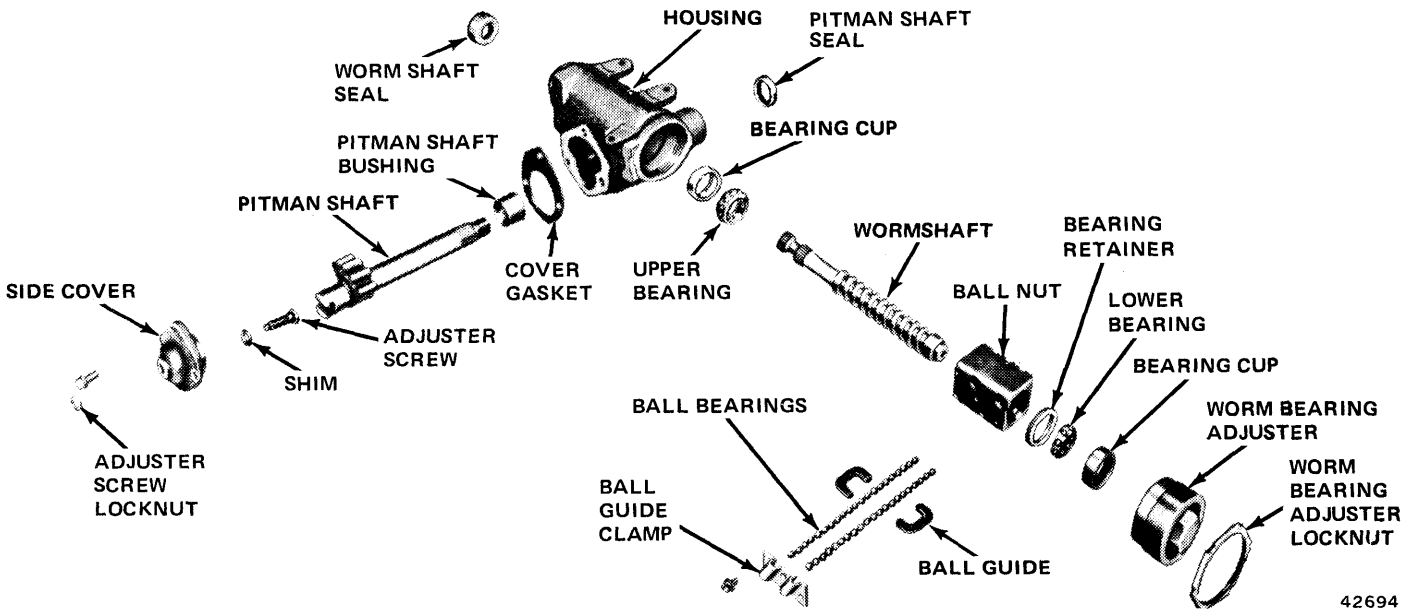

Fig. 11-47 Steering Gear—Left-Hand Drive Vehicles
- (2) Remove pitman shaft adjuster screw locknut (fig. 11-47).
- (3) Remove side cover attaching bolts and lockwashers.
- (4) Turn pitman shaft adjuster screw clockwise to force side cover from housing. Remove side cover and gasket.
- (5) Remove adjuster screw and shim from T-slot in pitman shaft (fig. 11-47). Retain shim with screw.
- (6) Remove pitman shaft from housing. If necessary, tap shaft lightly to remove. Do not damage pitman shaft bushing when removing shaft.
- (7) Remove worm bearing adjuster locknut.
- (8) Remove worm bearing adjuster.
- (9) Remove bearing retainer and wormshaft lower bearing from worm bearing adjuster. Use screwdriver to pry retainer out of adjuster and remove bearing.